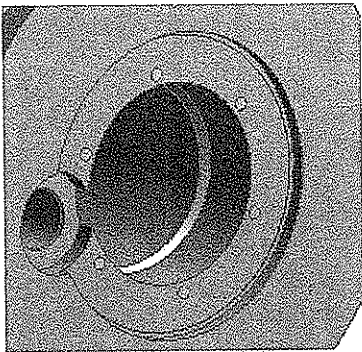

Figure 7-69 Selecting the holes with the fills
- 17. Select the six fills created, as shown in Figure 7-69.